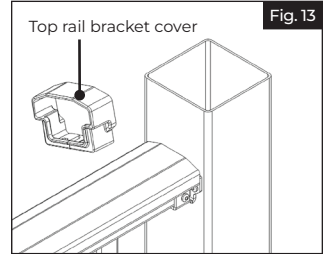

Fig. 13
- c. Open the top rail bracket cover to allow it to wrap around the top rail (Fig 13). While open, make sure the "tab" fits behind the rail and against the post.